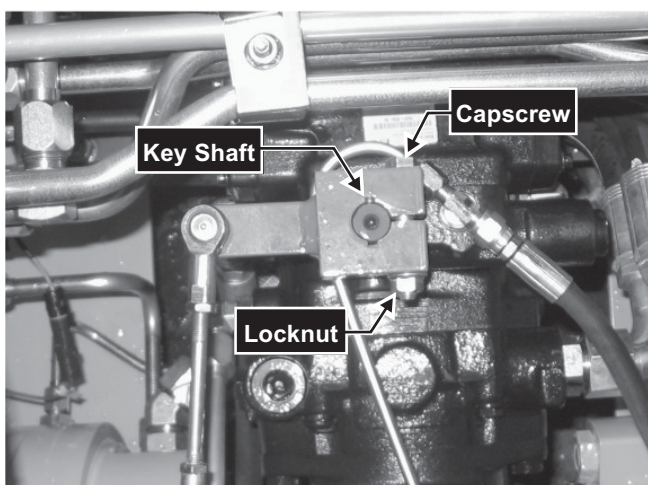

Fig. 6-49 Remove/install pump arm to hydrostatic pump shaft. Retain the keys when lifting control arm off the pump shaft.
2. Remove the capscrew and locknut that clamps the control arm assembly to the hydrostatic pump shaft. **Fig. 6-49**
3. Slide the control arm assembly off the hydrostatic pump shaft. Take the small key off the shaft (use caution not to lose it). **Fig. 6-49**